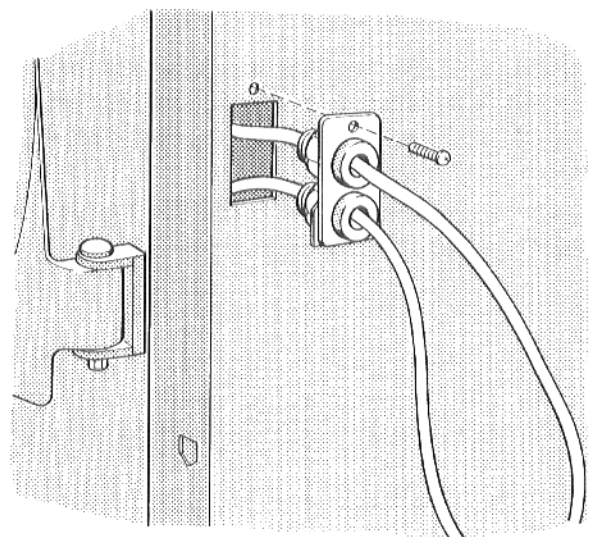

Fig. 16
- Fasten the burner cable by turning the plastic shell or the nuts (Fig. 16).
- Attach the cover plate with or without the burner cable in the left-hand or right-hand side panel and fasten at the top with a self-tapping screw (Fig. 16).